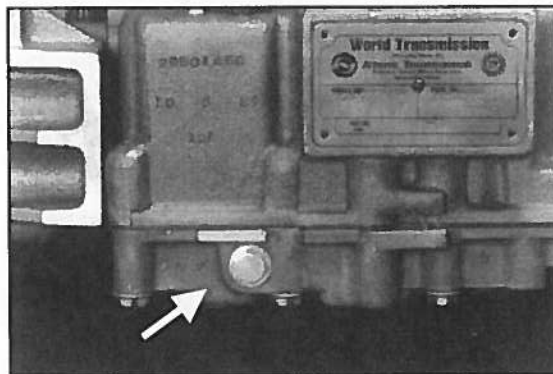

Fig. 9
1. Begin by draining the oil from the transmission. Use caution, since the oil may be hot (**Fig. 9**).